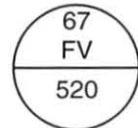

Figure 77. Instrument Tag
3. Identify the loop and area the device is in using the instrument tag in figure 77.